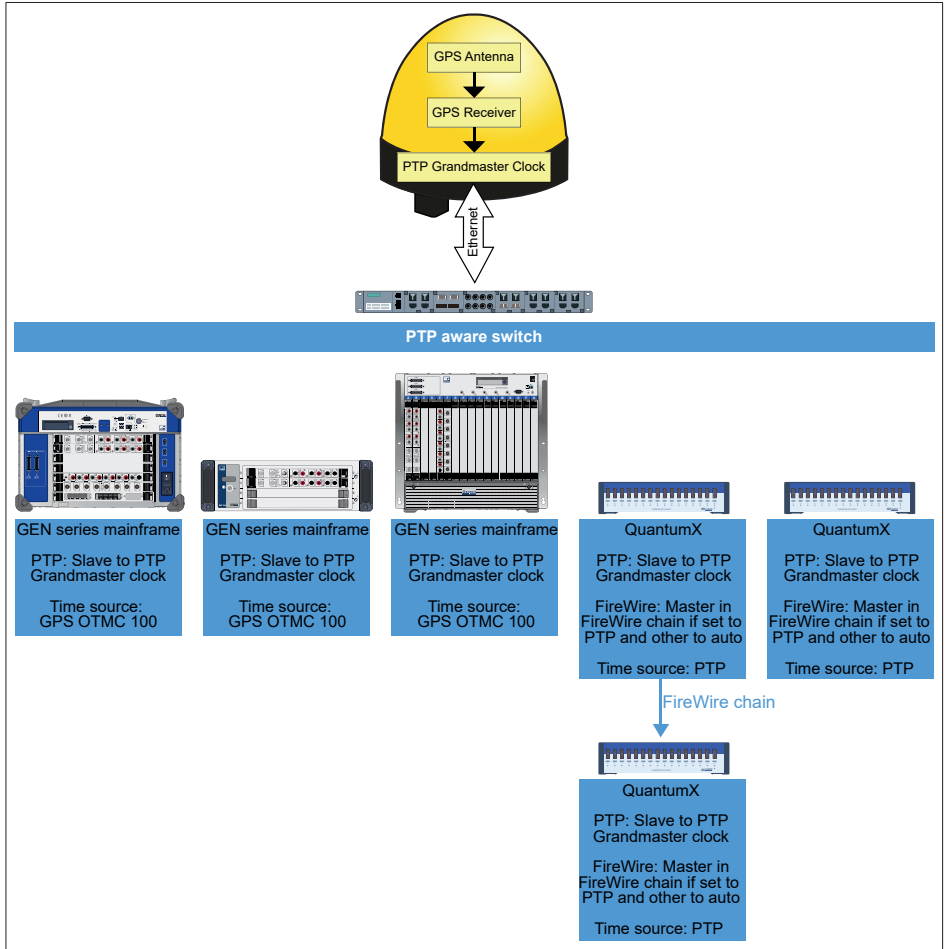

Fig. 14.29 GPS receiver with tethered mainframes plus QuantumX
- G002B: GPS receiver with tethered mainframes plus QuantumX (see Fig. 14.29)